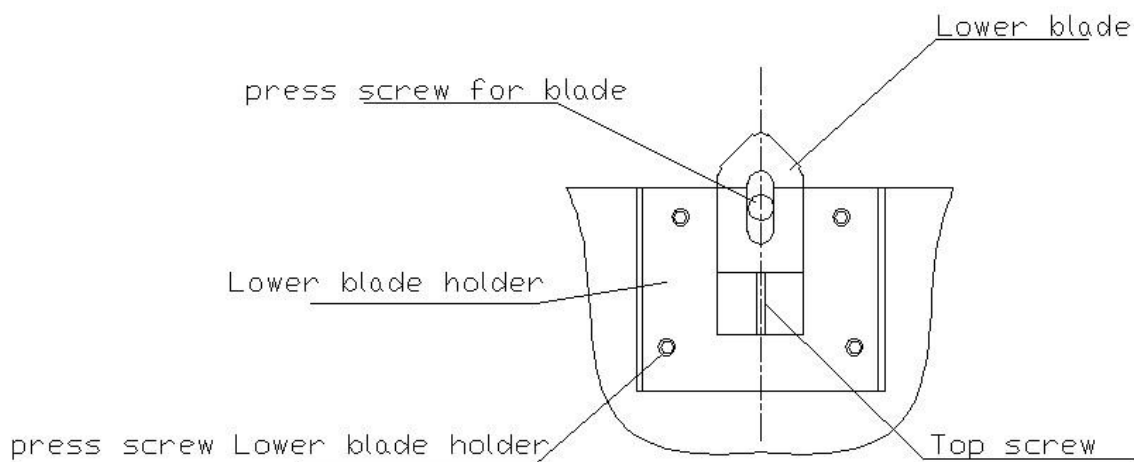

Figure2
4.2 Adjustment for the lower blade (See Figure2)
To adjust the gap between the upper and the lower blade, please refer to the figure 2.